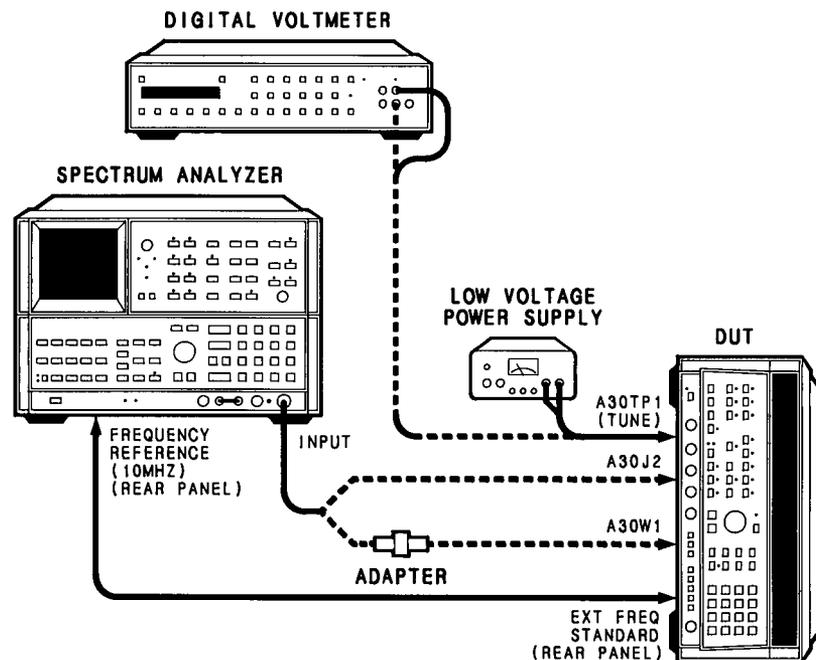

Figure 5-5. 100 MHz VCXO Adjustment Setup
1. Position DUT into the Test Position as shown in Figure 5-5 with the bottom cover removed. On the DUT's rear panel, disconnect the BNC cable connected between INT and EXT Frequency Standard connectors, set INT/EXT switch to EXT, then connect a BNC cable from EXT connector to spectrum analyzer's frequency reference (10 MHz) rear-panel connector. Allow the test equipment to warm up for one-half hour.